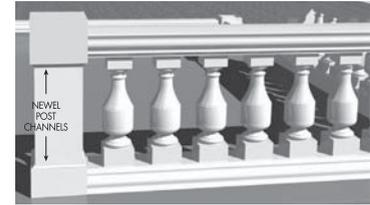

FIGURE 7B
**C)** Position a BALUSTER into each predrilled hole in the BALUSTER BOTTOM RAIL assembly. Align and cap off with predrilled BALUSTER TOP RAIL assembly (**FIG. 7B**).